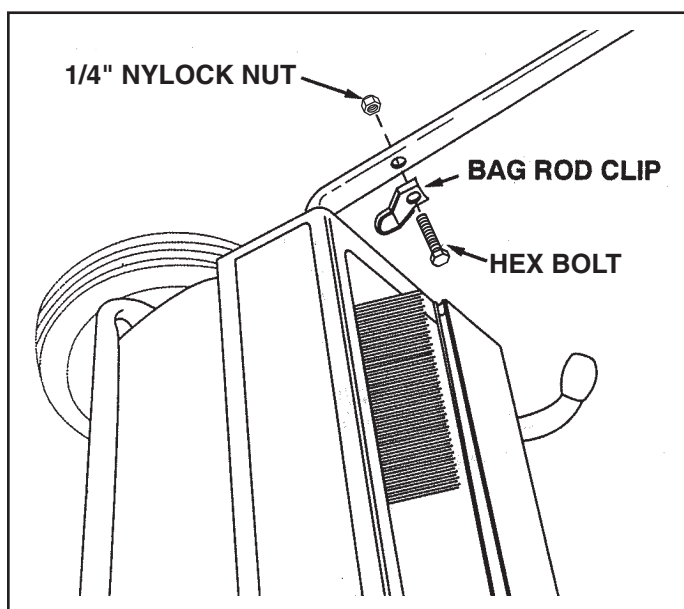

FIGURE 4
- Assemble a bag rod clip to the inside of each lower handle tube using a 1/4" x 1-1/4" hex bolt and a 1/4" nylock nut as shown. The clips should face towards the sweeper housing. See figure 4.